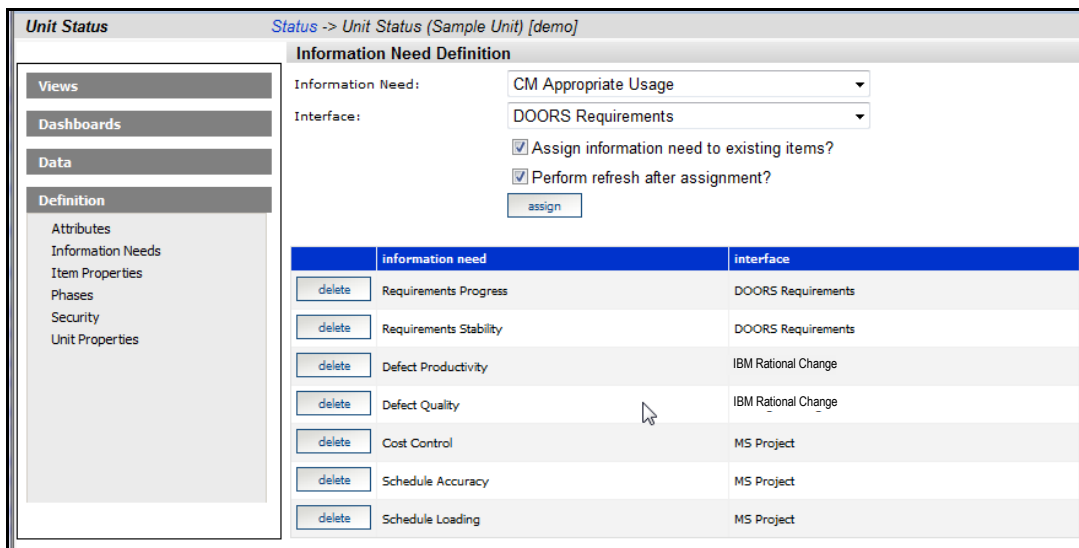

Figure 328
5. Click the Information Needs command (Figure 328)